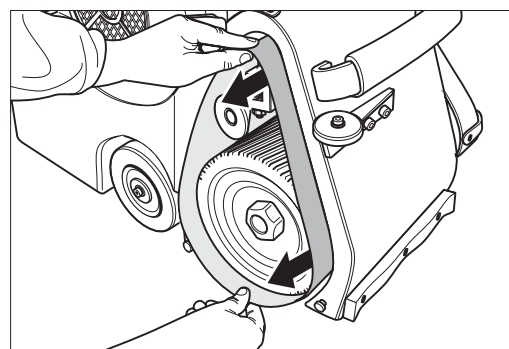

Fig. 27 Remove the sanding belt off the rollers.
- 5 Remove the abrasive belt (Fig. 27).